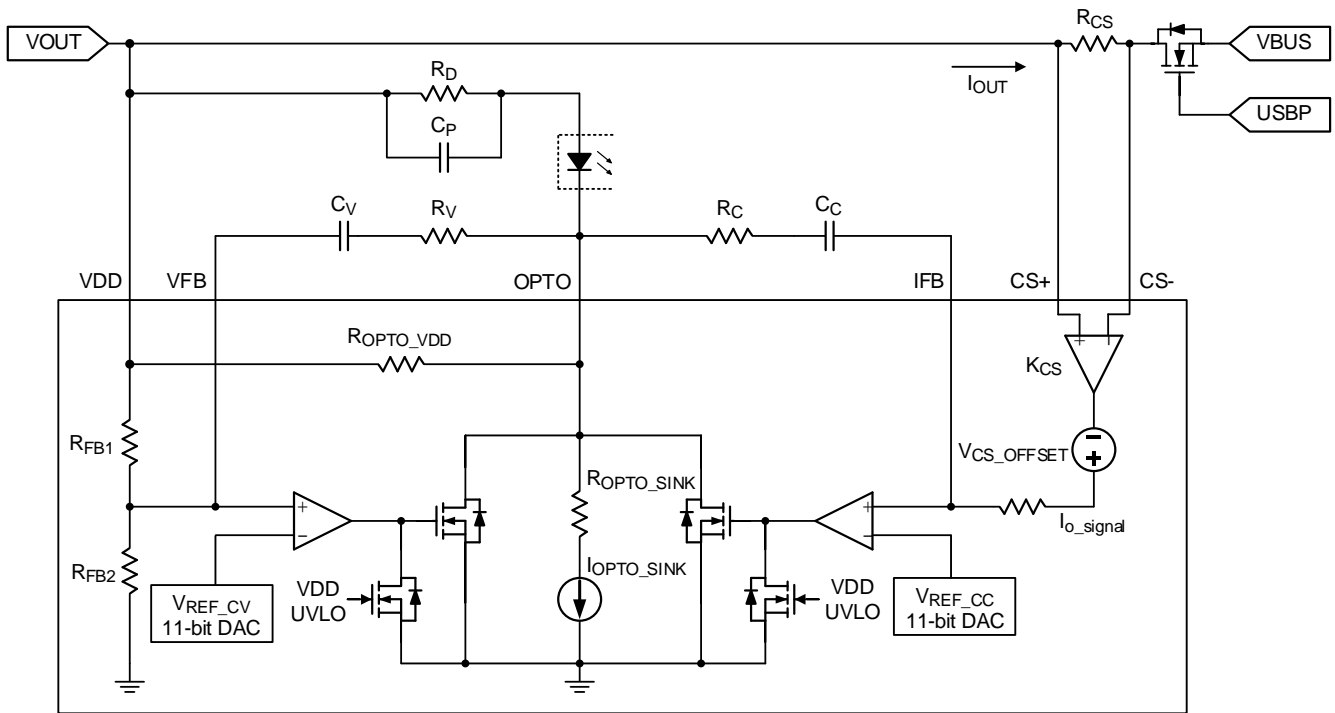

Figure 7. CV and CC Loops
As shown in Figure 7, the RT7204E integrates two error amplifiers (EA), which are connected with the feedback compensators to regulate the output voltage and current, respectively. The output voltage is determined by the following equation:
As shown in Figure 7, the RT7204E integrates a virtually zero input offset high-side current-sense amplifier with differential mode inputs to minimize noise interference. The sensed signal,  $I_{o\_signal}$ , is fed into an 11-bit ADC for monitoring and processing by the MCU. The reference voltage of the CC loop is determined by  $V_{REF\_CC}$  (from the DAC), which is programmed according to the requirements of charger.